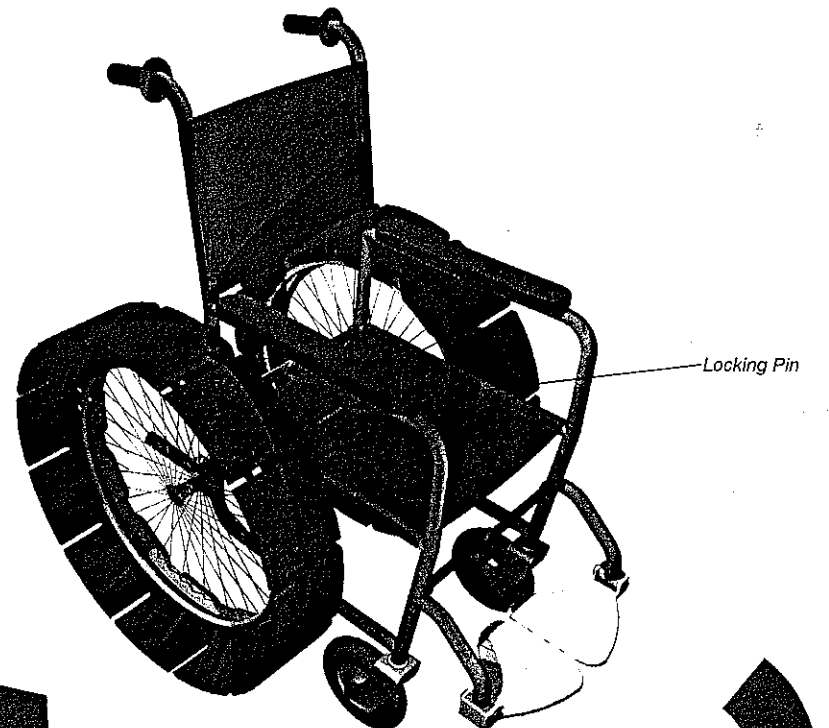

Figure 3 – Tracks fully wrapped around wheels
4. The locking pin is inserted joining the two ends of the track forming a continuous loop around the wheel (Figure 3)